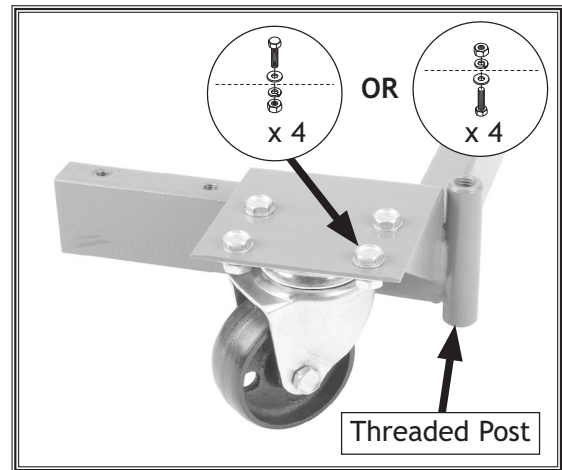

Figure 5. Swivel caster mounted to corner bracket.
1. Mount each swivel caster to a corner bracket that has the four hole pattern and threaded posts using (4) M8-1.25 x 16 hex bolts, 8mm flat washers, 8mm lock washers, and M8-1.25 hex nuts, as shown in Figure 5.